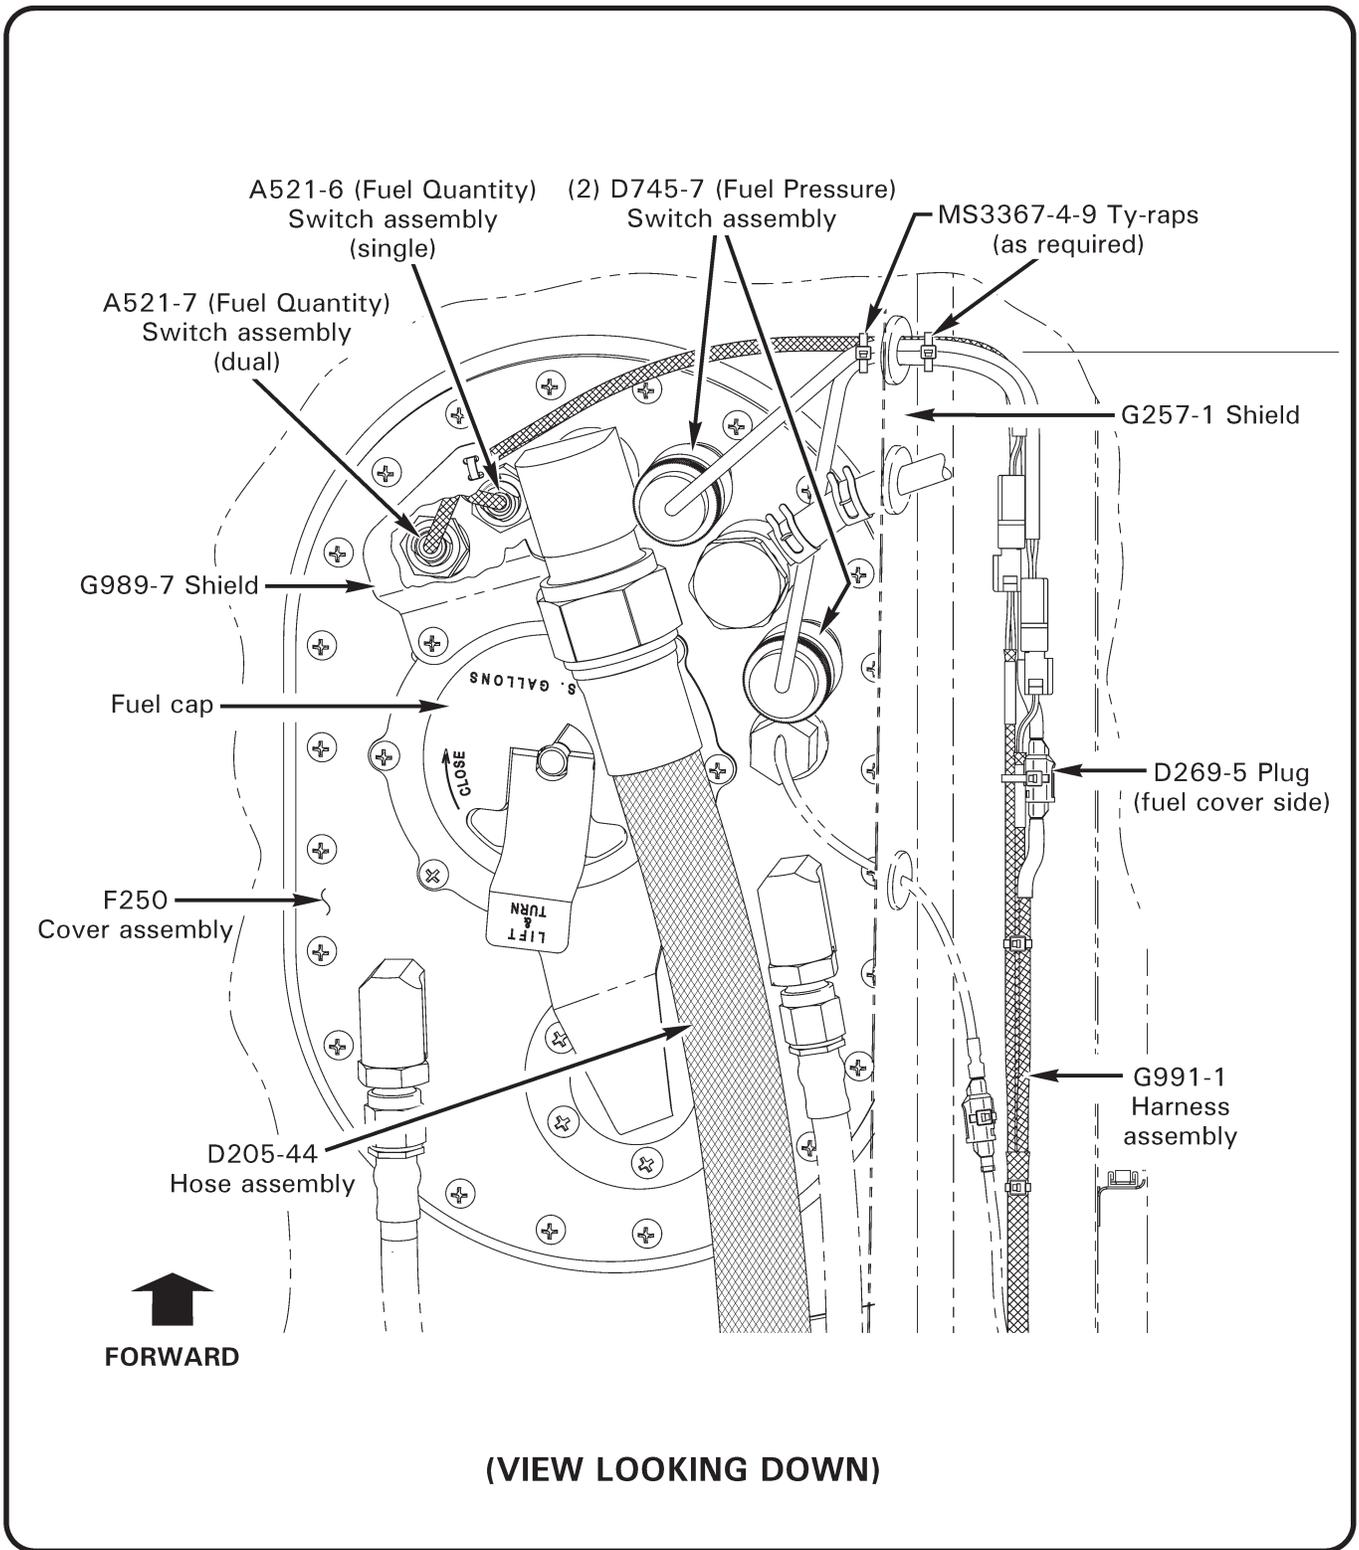

FIGURE 28-8 MAIN FUEL PORT (SHOWN WITH OPTIONAL AUX FUEL TANK)
4. Refer to Figure 28-8. Open (main) fueling port door. Cut and discard ty-raps as required and disconnect A521 & D745-7 switch assembly wire harnesses from G991-1 harness assembly at connectors.
2. Refer to Figure 28-8. Open (main) fueling port door and remove fuel cap. With gloved hand, route switch assembly and wiring through (fuel cap) opening inside of bladder. Route wires thru switch assembly opening and install nut securing switch assembly to F250 cover assembly. Special torque nut per § 20-33 and torque stripe per Figure 5-1.